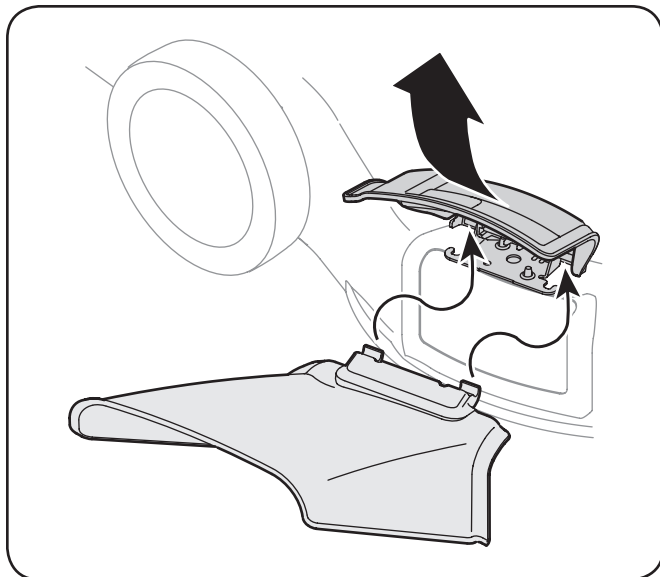

Figure 3-7
2. Slide chute hooks under hinge pin on mulching plug assembly. Lower mulching plug. See Fig. 3-7. Do not remove side mulching plug at any time, even when you are not mulching.